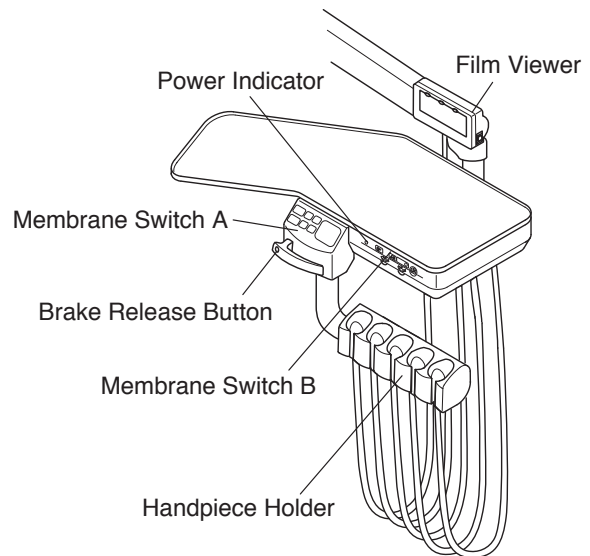

Fig.3-1 Doctor Unit
1. MASTER SWITCH (Fig.3-1 & 3-2)
2. TABLE POSITION (Fig.3-1)